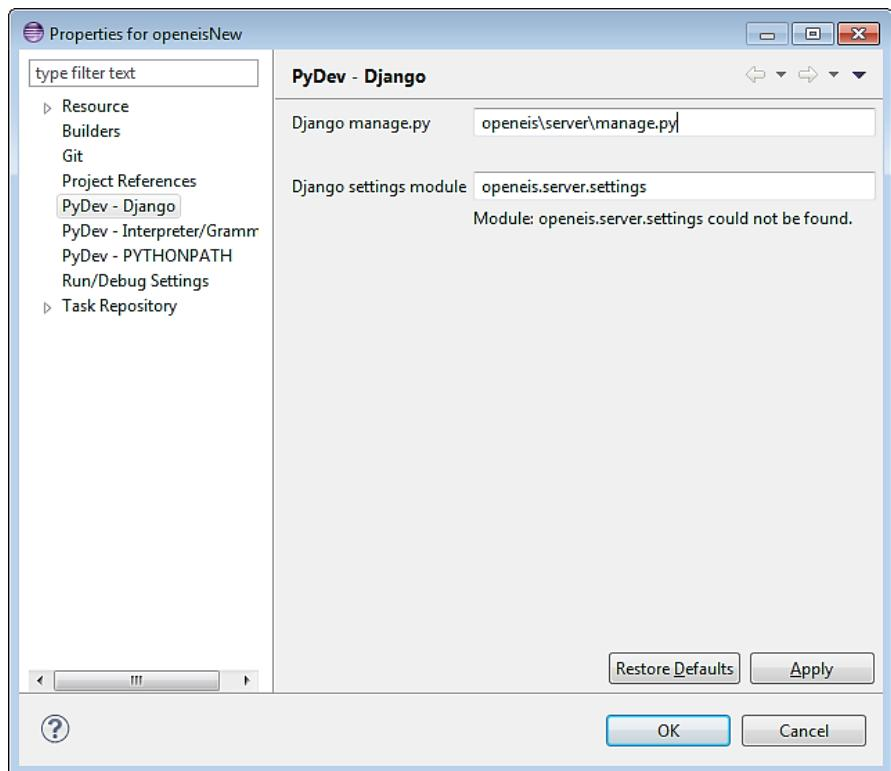

Figure 31: Configure Django Settings
- Select the PyDev – Django tab and configure the window, as show in Figure 31